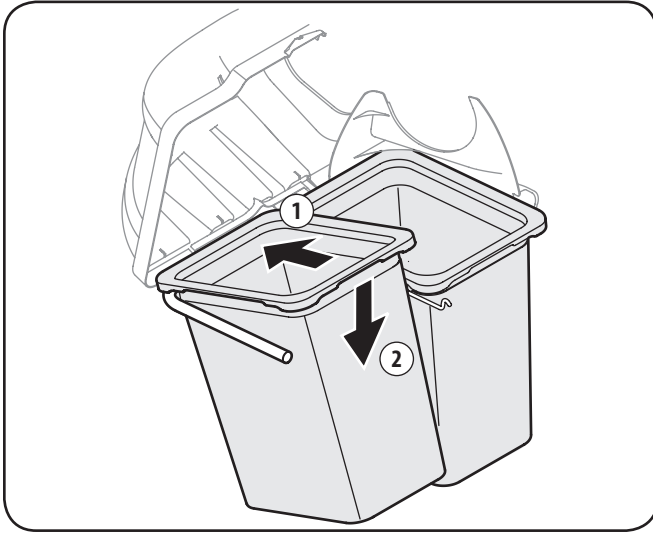

Figure 4-13
- Install both grass bag assemblies, with the tight mesh sides facing forward, onto the bag support brackets by inserting the front edge in first, as shown in 1 of Figure 4-13, and setting the back edge down (2) until it fits into the assembly.